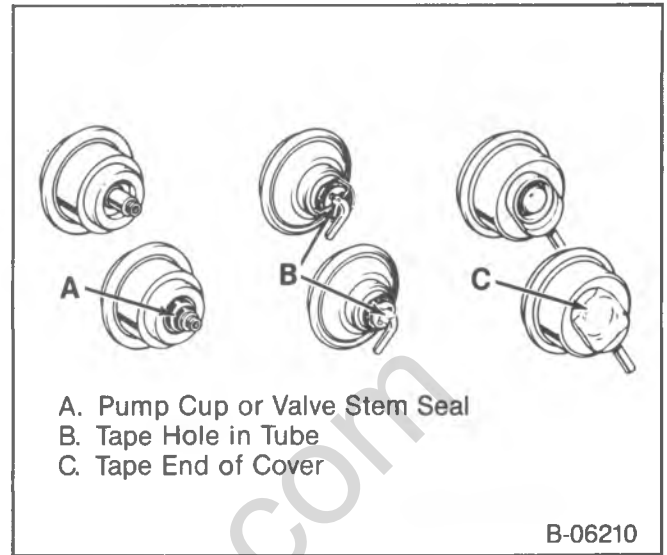

Figure 33—Plugging Vacuum Break Bleed Holes
- If the vacuum break has an air bleed hole, plug it during this checking procedure (figure 33).